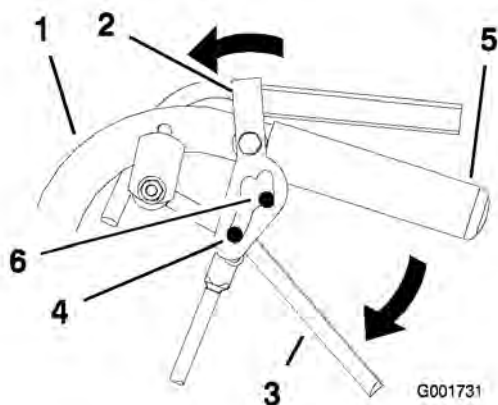

Figure 8
2. Place thumbs on the upper part of locks and move them forward until the pins are in the forward slot (Figure 8).